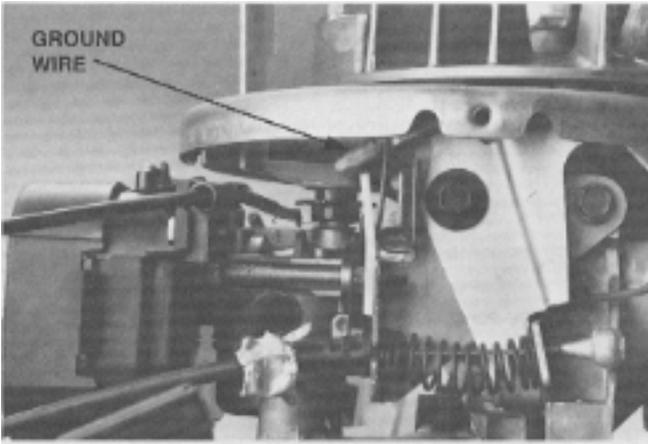

Figure 66
5. Remove brake plate assembly by removing one 10 mm shoulder screw and one 3/8" washer-head screw. Place the assembly on the mower deck and disconnect the ground wire (that goes to the CD Pack). (Figure 66).